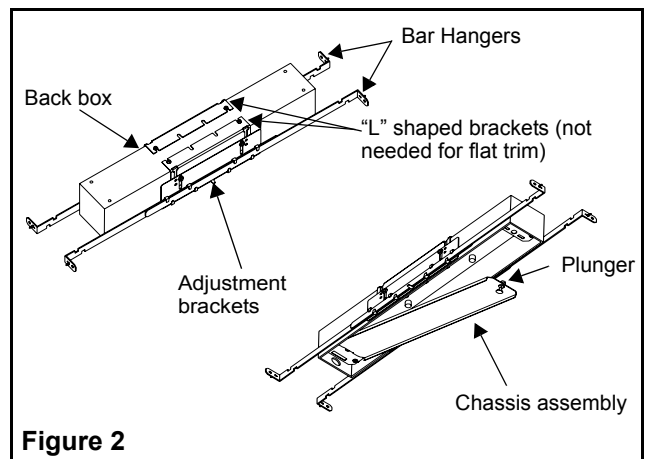

Figure 2
2. Assemble the recessed mount brackets to the back box. Install the bar hangers in the adjustment brackets (see fig. 2). Mount the back box so that it is flush with the wall or ceiling surface.
7. Install the chassis assembly into the back box by hinging the plate into the pivot holes and moving the plate to the closed position. Push the plunger into the hold down grommet (see fig. 2).